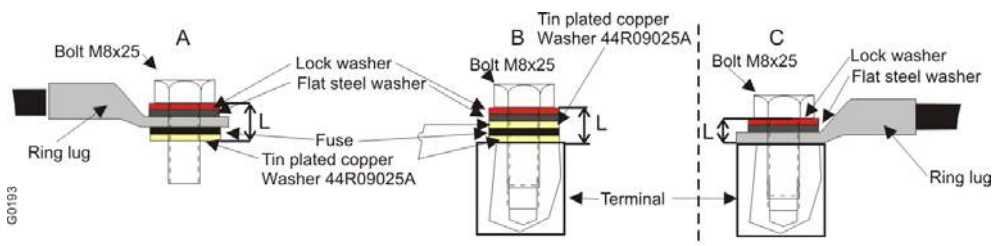
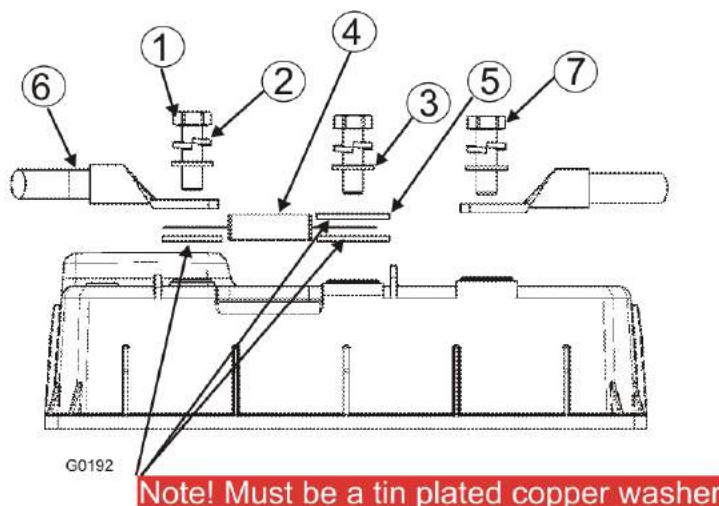

Figure 12. Recommended bolt length.
Figure 14. Recommended connection for on-board fuse and motor connection.
Ring lugs for motor and battery connections must be properly rated to carry motor and battery currents; otherwise, overheating will occur. Crimp ring lugs onto the motor wires, then secure the lugs to terminal posts using bolts (M8 x 25 pos. no 1 and pos 7 in Figure 14) and lock washers and washers if necessary. (For L, see Figure 12 and used bolt pos. no 7 in Figure 14).
Figure 12. shows recommended connections to terminal posts (when bolt and washer/s are tightened). Use a torque wrench with 13 mm socket. Tighten the bolts to 15 ± 2 Nm.
See Figure 14 for position number.
1. 2x Bolt M6S M8 x L 8.8fzb for on-board fuses/battery, (for L, see above and Figure 12).
7. 4x Bolt M6S M8 x L 8.8fzb for motor connection, (for L, see above and Figure 12).